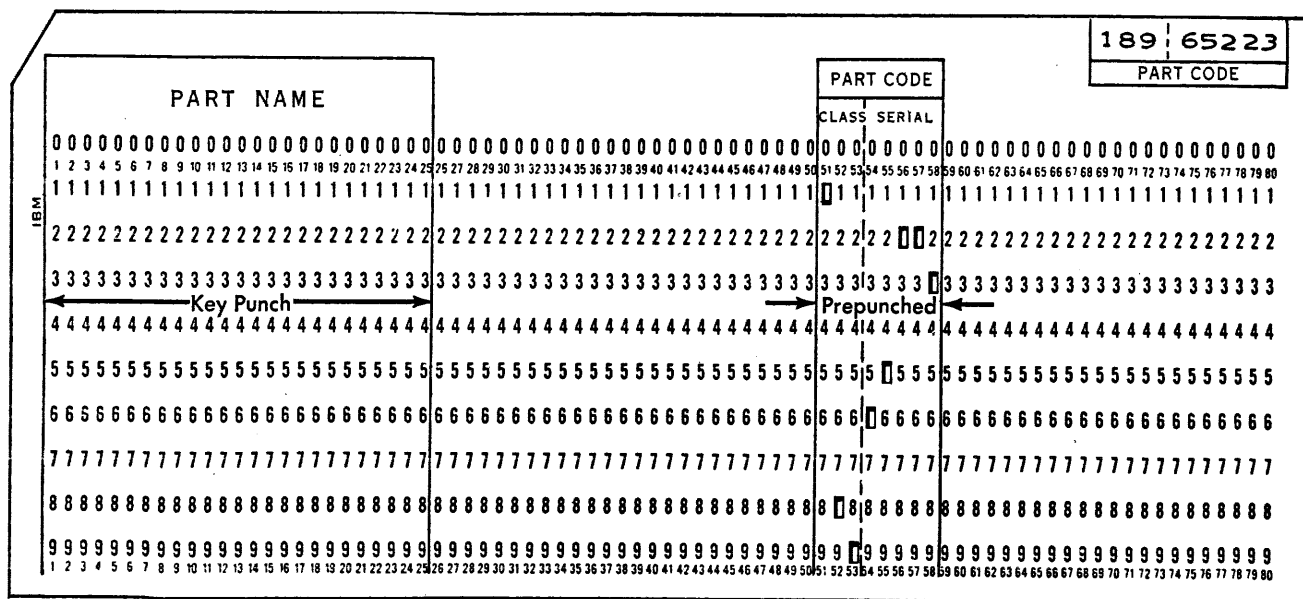

Figure 11. Inserting Cards Manually
In this illustration (Figure 11), cards prepunched with part code are to be punched with part name, which is written on an accompanying ticket.
**Procedure for Inserting Cards Manually (Figure 11)**